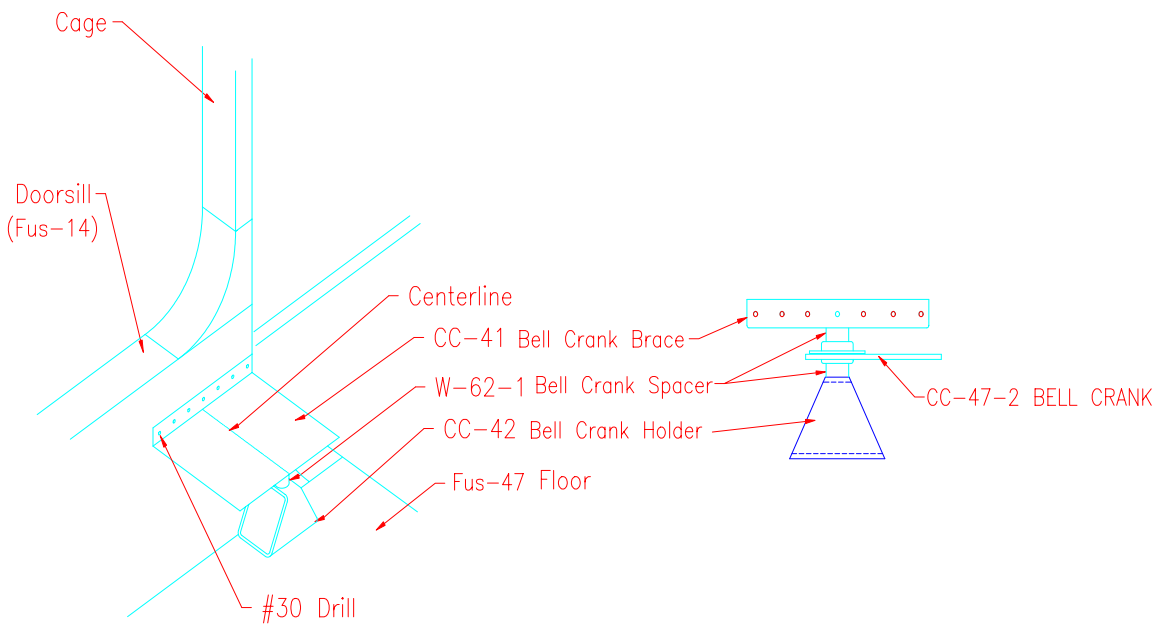
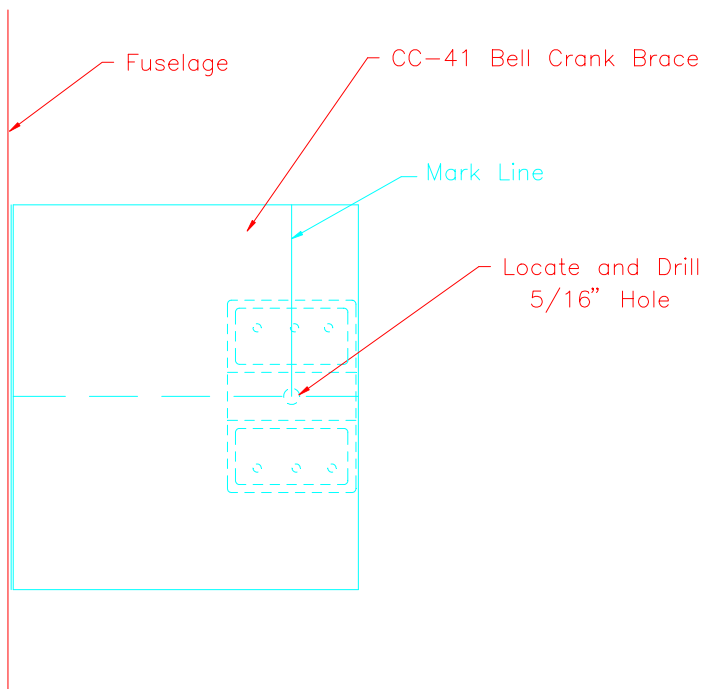

Figure 15.6.6
Figure 15.6.7
8) Position the Bell Crank Brace (CC-41). Layout and drill seven #30 holes through the Bell Crank Brace end flange. Figure 15.6.6.
9) draw a center line down the middle of CC-41. Figure 15.6.6.
**NOTE:** Slide the CC-41 along the Door Sill (FUS-406) until you can see the center line in the CC-42 Bell Crank Holder. Mark a line and join it with the center line you just drew. Drill a 5/16” hole at the intersection. Figure 15.6.7.
10) Temporarily assemble the Bell crank assembly as per figure 15.6.6. Drill through the seven #40 flange holes on CC-41 into the FUS-406 Door Sill. Figure 15.6.7.